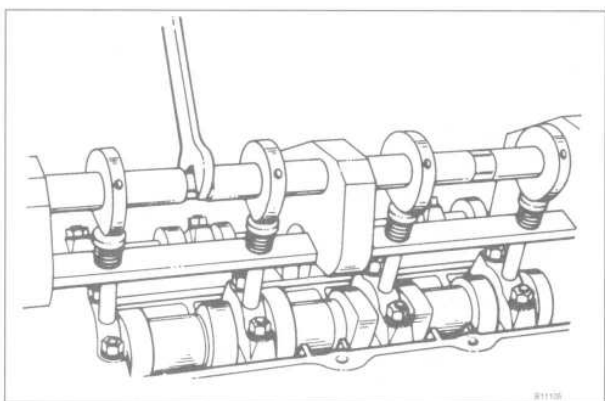

Fig. 27. Special tool (eccentric shaft) being turned to apply pressure to camshaft bearing caps.
- Turn the tool eccentric shaft until pressure is applied to the camshaft bearing caps. See Fig. 27.